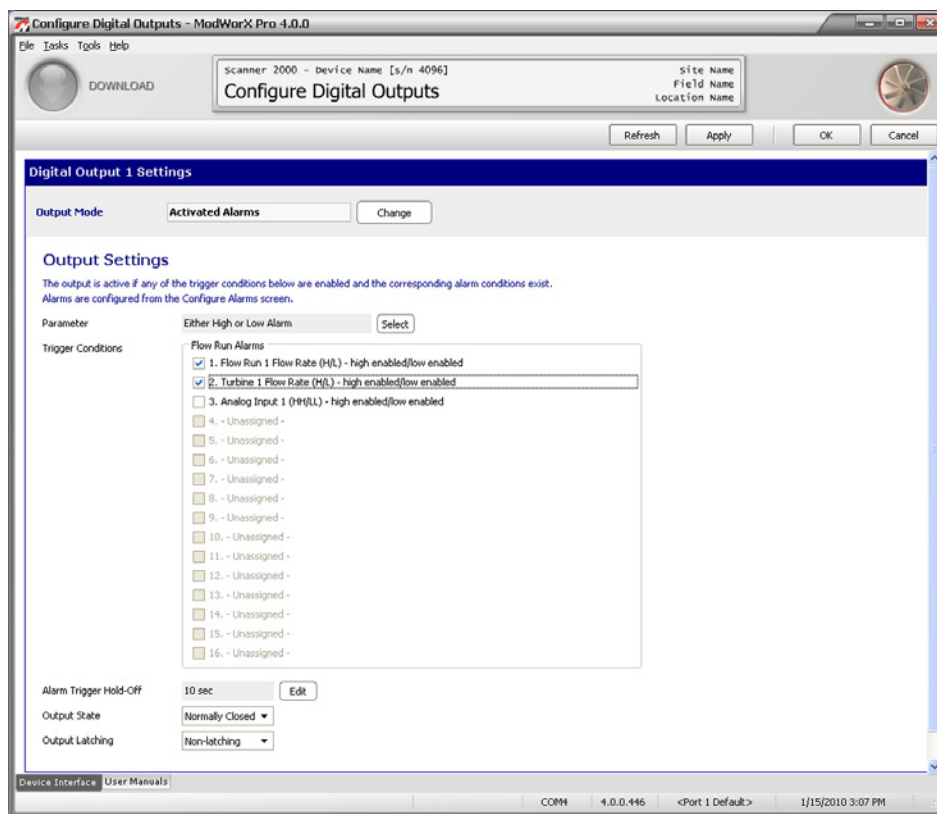

Figure 7.11
2. Click **OK** to save the setting and return to the Configure Digital Outputs screen (Figure 7.11).
- If one of the top three selections was chosen in step 3, only parameters that are configured as alarms will appear in the Trigger Conditions field (Figure 7.11, page 101). To add a parameter, configure a new alarm in the Configure Alarms menu. See Archive Parameter Setup, page 47, for more details.